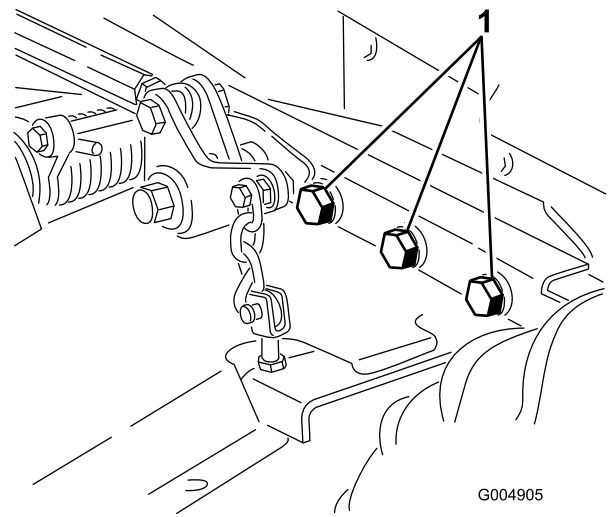

Figure 97
5. Check all fasteners for looseness and tighten them as necessary. Torque the 6 bolts securing the mower deck frame to the traction unit (Figure 97) to 359 N·m (265 ft-lb).